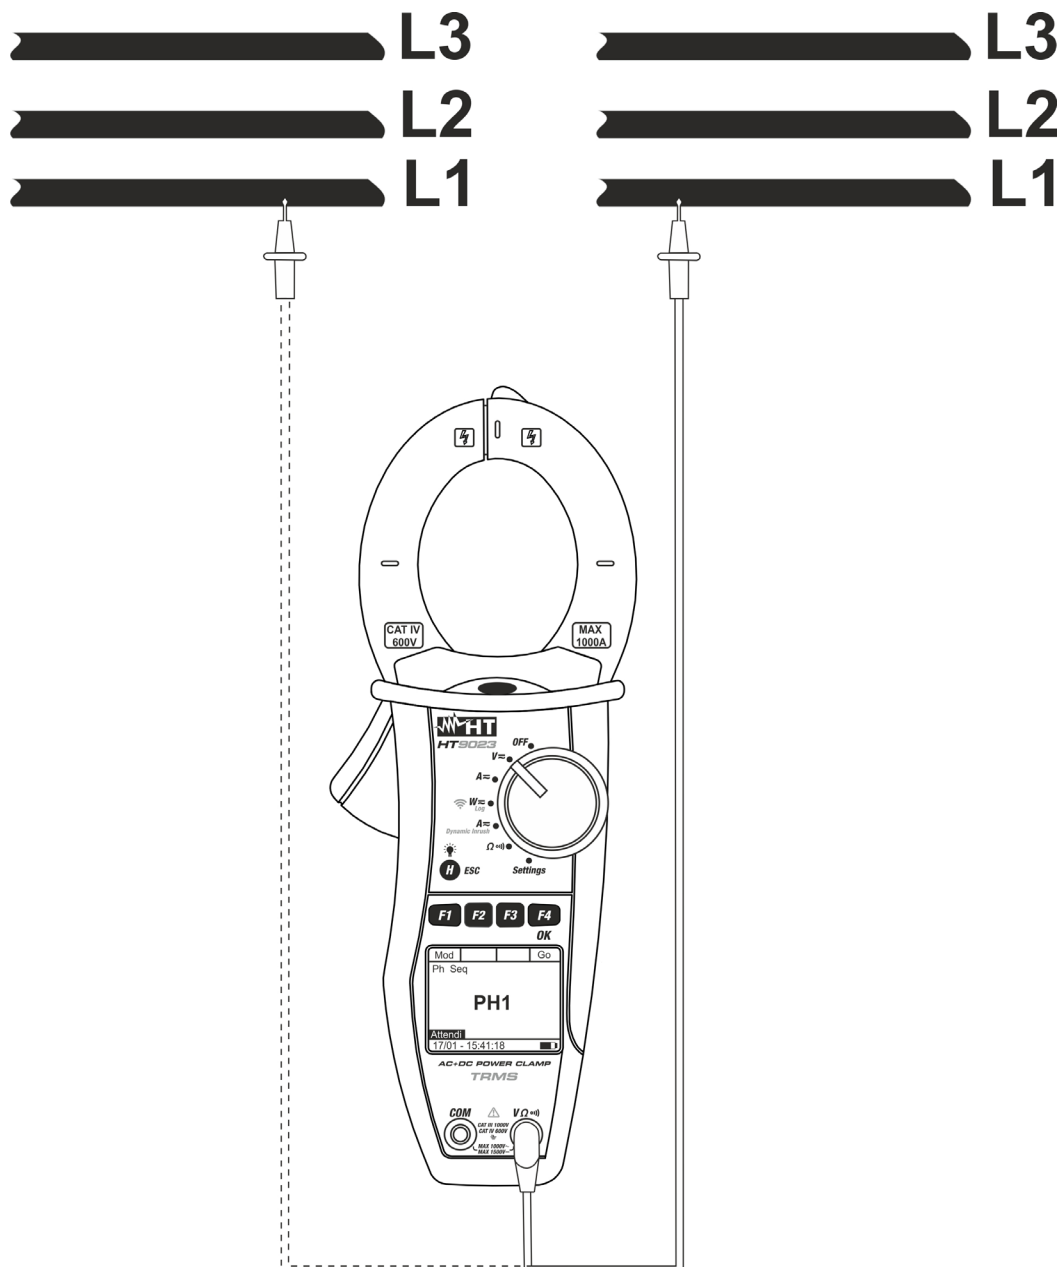

Fig. 8: Verification of phase conformity
2. Connect the red cable to the input lead $V\Omega$ then position the lead **on the L1 phase of the first system** of the circuit under test (see Fig. 8)
5. The message “**PH2**” is displayed and the instrument waits for the detection of L1 phase of the second system. Connect the test lead to L1 phase of the second system (see Fig. 8)